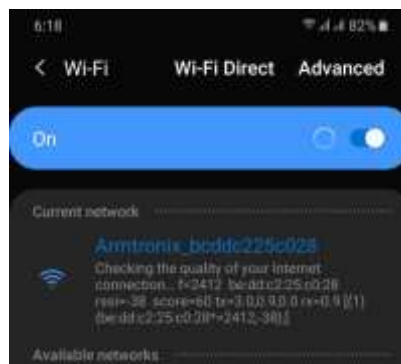

Figure 28: Hosting device with tasmota name
5. Once the device Powered ON, it will host an access point as shown in Figure 28 below: